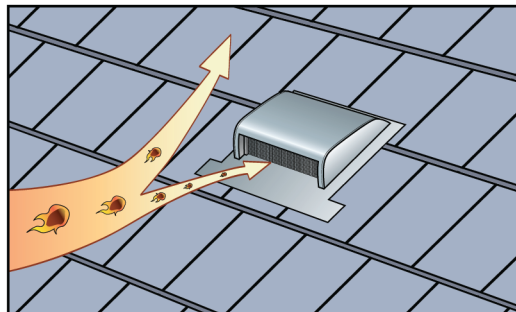

Figure 2. Embers or hot gases can be blown or pulled into vents.
- Embers and hot gases can be blown or pulled into vent openings and enter attic spaces, crawlspaces, and ductwork, leading to ignition of the interior of the building (see Figure 2).